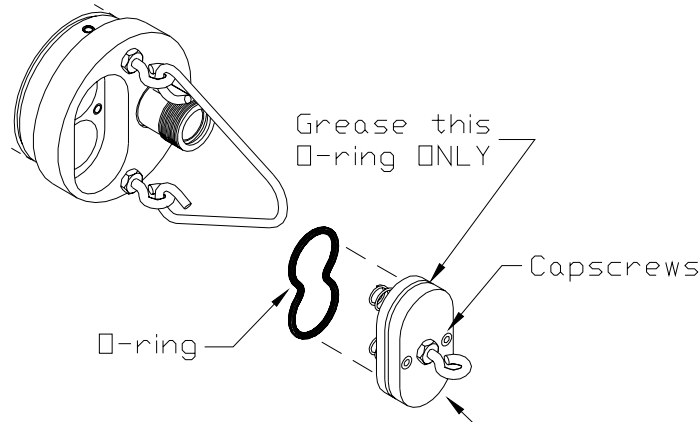

Figure 13
1. Lightly lubricate the O-ring on the outside of the battery cover. DO NOT lubricate the internal O-ring (066273). See figure 13.